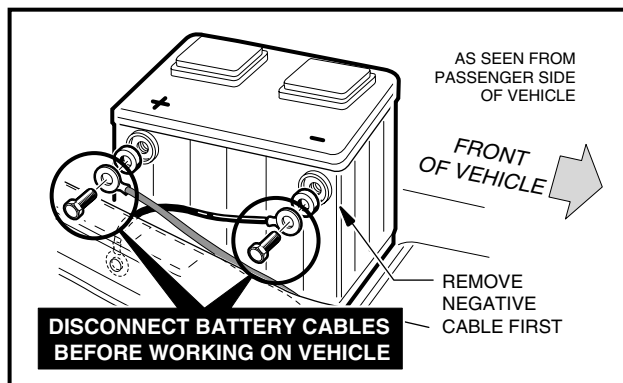

Figure 10-1 Battery Cable Removal
- **Disconnect battery cables, negative (-) cable first (Figure 10-1, Page 10-2).**